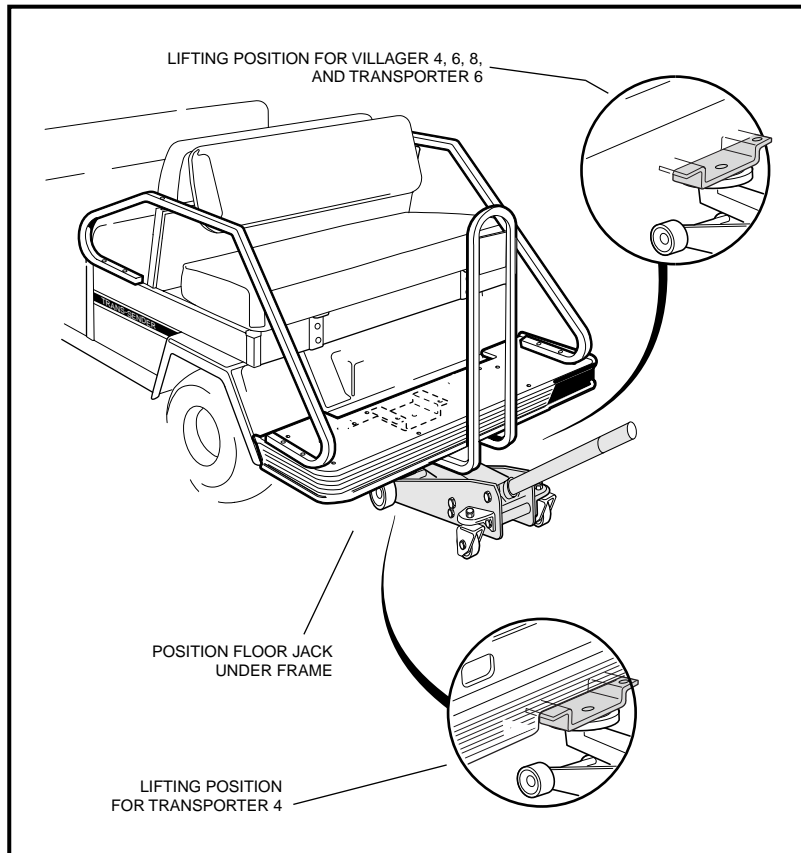

Figure 9-2 Lift Vehicle
2. Place chocks at the front wheels and lift rear of vehicle with a chain hoist or floor jack (**Figure 9-2, Page 9-3**). Position jack stands under the frame cross-member between the rear leaf spring front frame mount and the side stringer, just forward of each rear wheel. Lower the vehicle to let the jack stands support the vehicle. **See WARNING on page 9-1.**